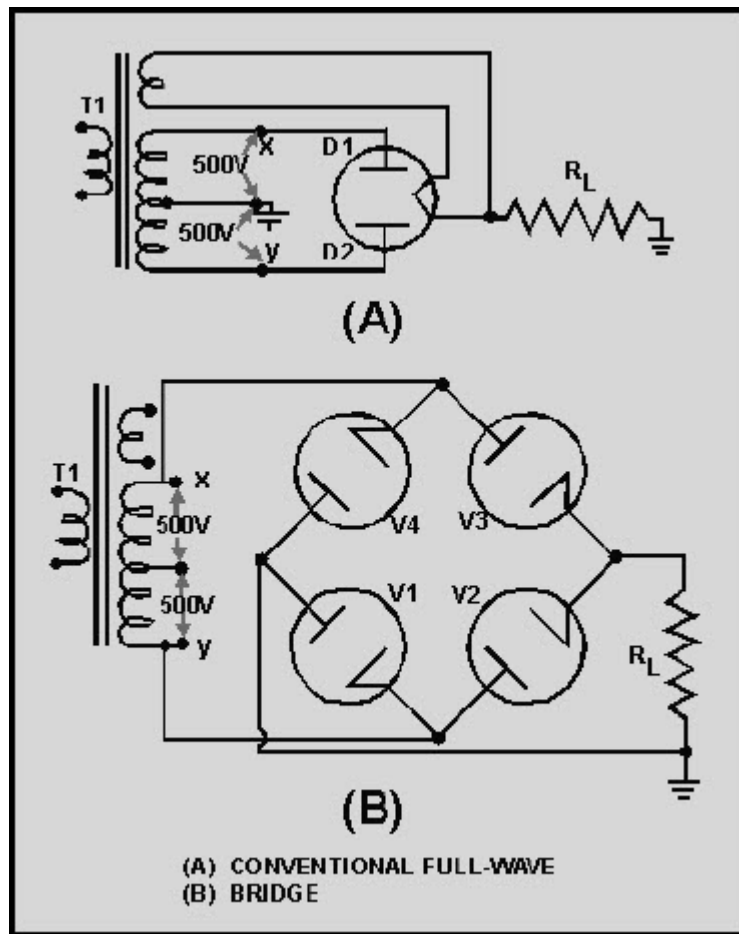

Figure 3-13 Comparison of conventional full-wave and bridge rectifiers: A. Conventional full-wave circuit
One advantage of a bridge rectifier over a conventional full-wave rectifier is that with a given transformer, the bridge rectifier produces a voltage output that is nearly twice that of the conventional full-wave circuit. We can show this by assigning values to some of the components as shown in figure 3-13, views (A) and (B).